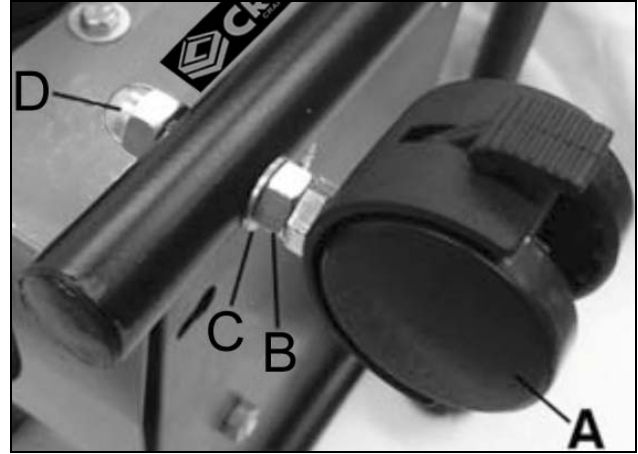

Figure 3
This dust collector comes with 2 locking casters and 2 non-locking casters. Install both locking casters on the same side. To install, attach to the underside of the frame, make sure each caster (A) Fig.3 has a nut (B) threaded all the way and a washer (C) placed over the threaded shaft of the caster. Insert the caster shaft through the underside of the frame and secure with the acorn nut (D) provided. Use two open end wrenches to securely tighten the caster to the frame. Repeat for all of the remaining casters.